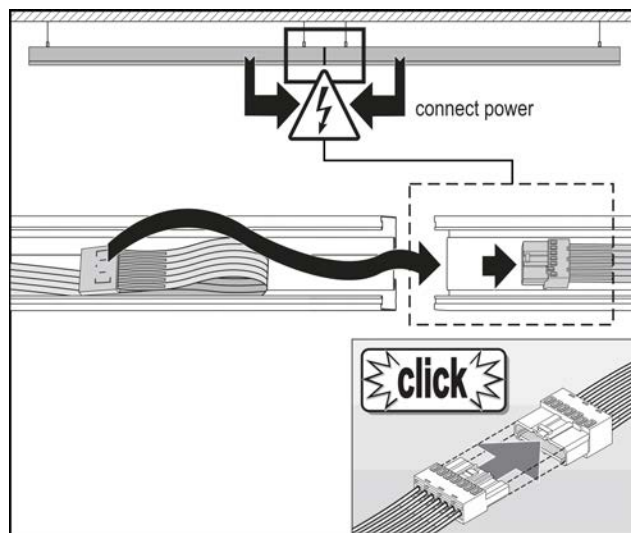

Figure 10
■ After each Coupling Piece is installed, connect the wiring harness in each Trunk as shown in Figure 10. Connection of the wire harness, between Trunks, is not required where L-, T- or X-Corner Connectors are used.